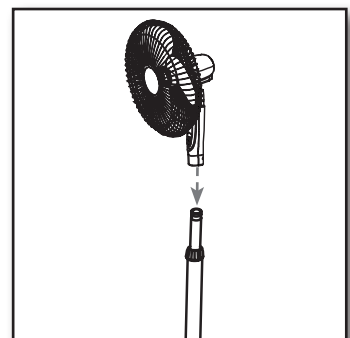

Figure 10.
6. Slide the Fan Assembly onto the telescope pole of the base until it rests on the top of the pole. **Figure 10.**